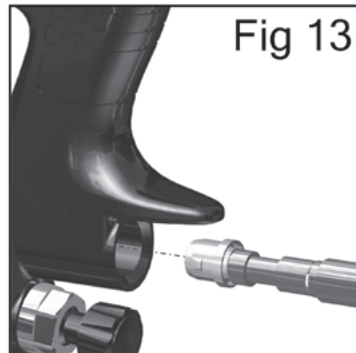

Fig 13
11. Fit new front seal (18) to service tool (44). Fit into gunbody and press firmly to ensure seal is engaged. (See fig 13).